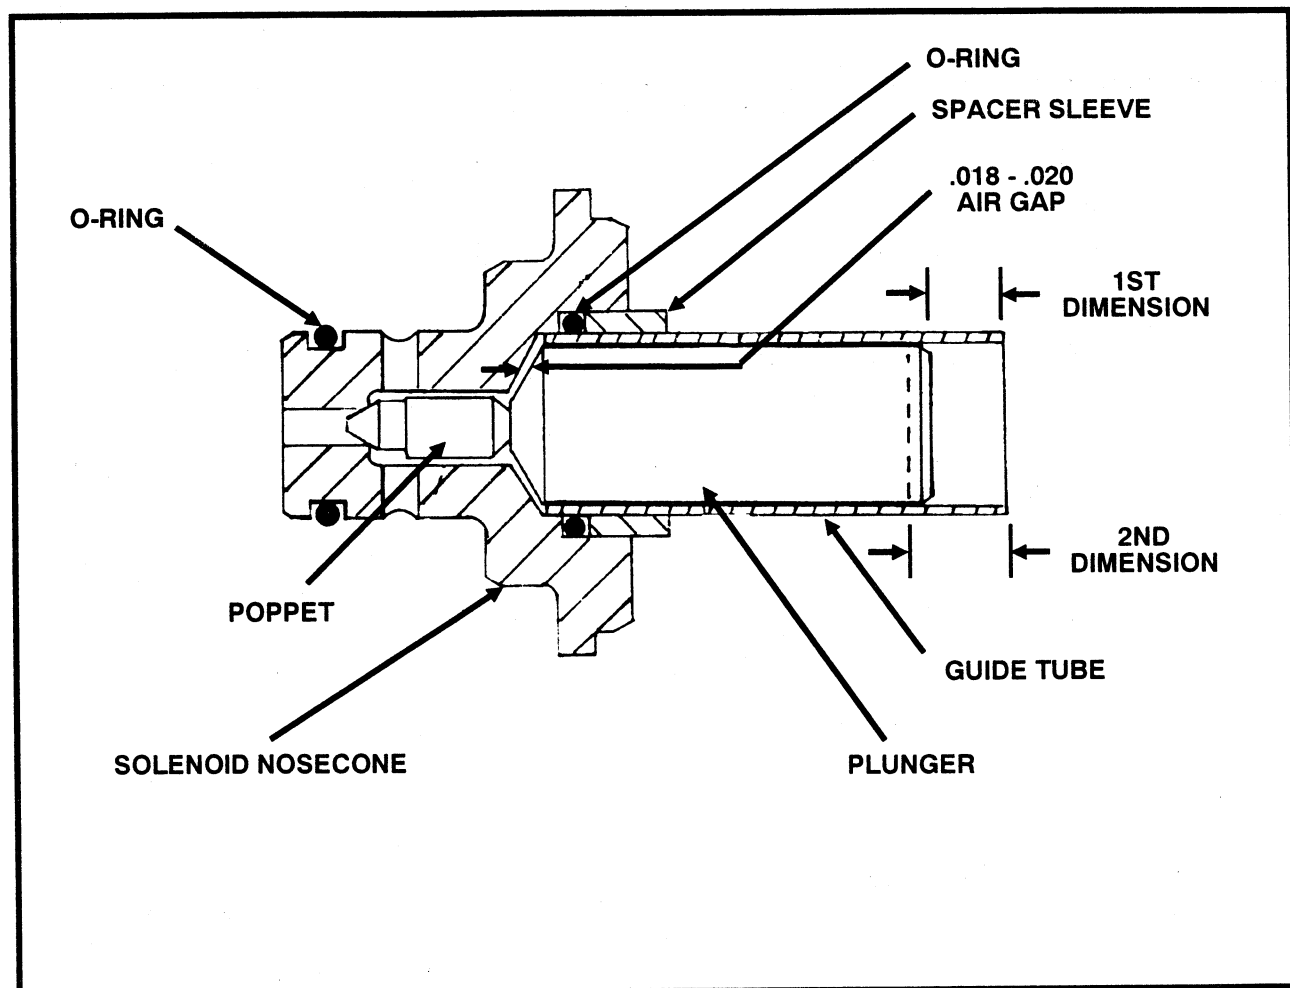

Figure 2-18. Racine Proportional Air Gap Adjustment, Machines Built Prior To Mid 1987.
The assembly in Figure 2-18 includes select fit parts in order to maintain a proper air gap. These parts must remain as an assembly or if disassembled, controlled to insure that these component parts are not inter-mixed with similar parts.
- a. *With all parts assembled as shown in Figure 2-18, use a depth mike or other measuring instrument to determine the distance from the end of the guide tube to the exposed end of the plunger. Record this dimension.